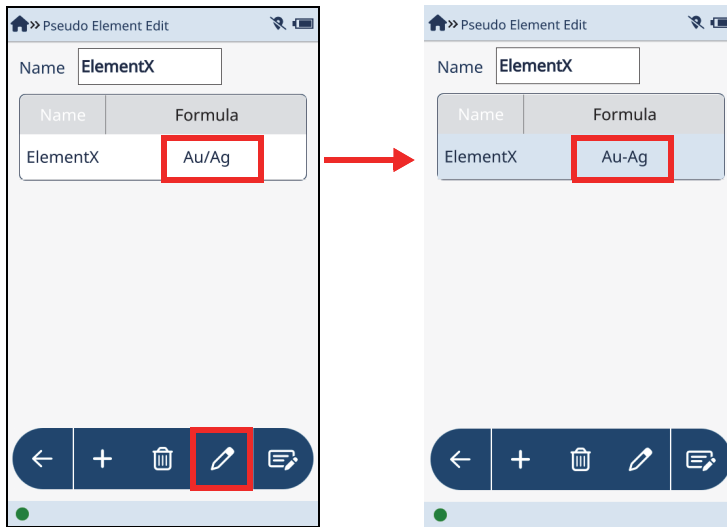

Figure 2-52 Pseudo Element Edit screen unedited (left), and edited (right)
3. Tap the pseudo element that you want to edit (see Figure 2-52 on page 66 [left]).
4. Tap the **Edit** button () to display the **Pseudo Element** dialog box (see Figure 2-52 on page 66 [right]).